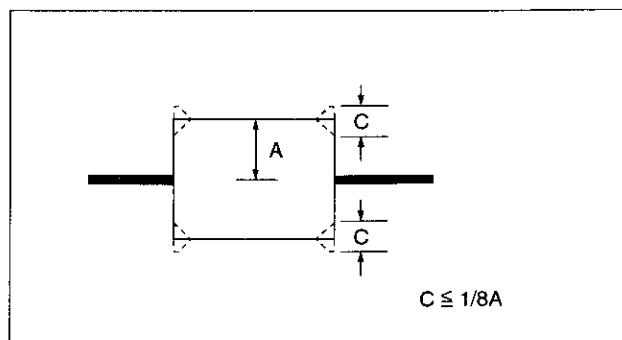

Figure 10
3. Ascertain that the waveform does not change remarkably. (Figure 10)